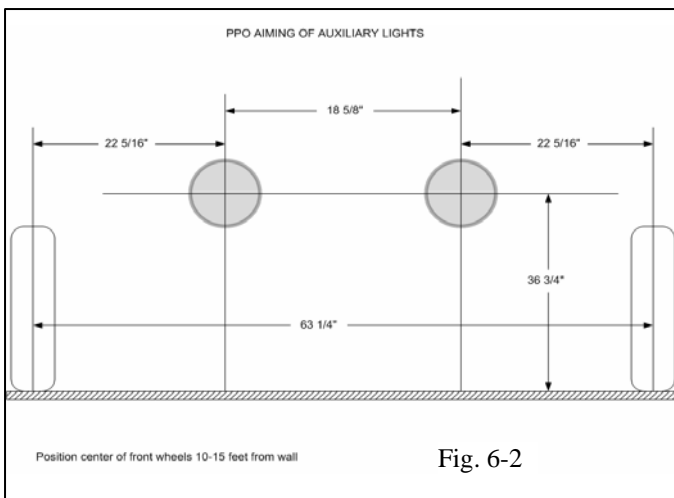

Fig. 6-2
- (h) Adjust the horizontal and vertical aiming of the lamps as shown. Place horizontal and vertical cross hairs on a wall 10 to 15 feet in front of the vehicle as shown. The center of the bright spot of the beam pattern should be centered on the cross hairs. (Fig. 6-2)